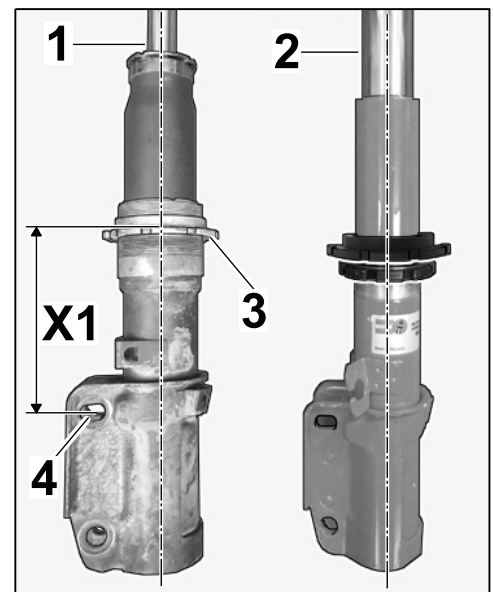

Figure 3
2.1 Measure dimension X1 (top of adjusting nut/mounting point for shock absorber ⇒ *Figure 3-X1-*) on the standard spring strut.